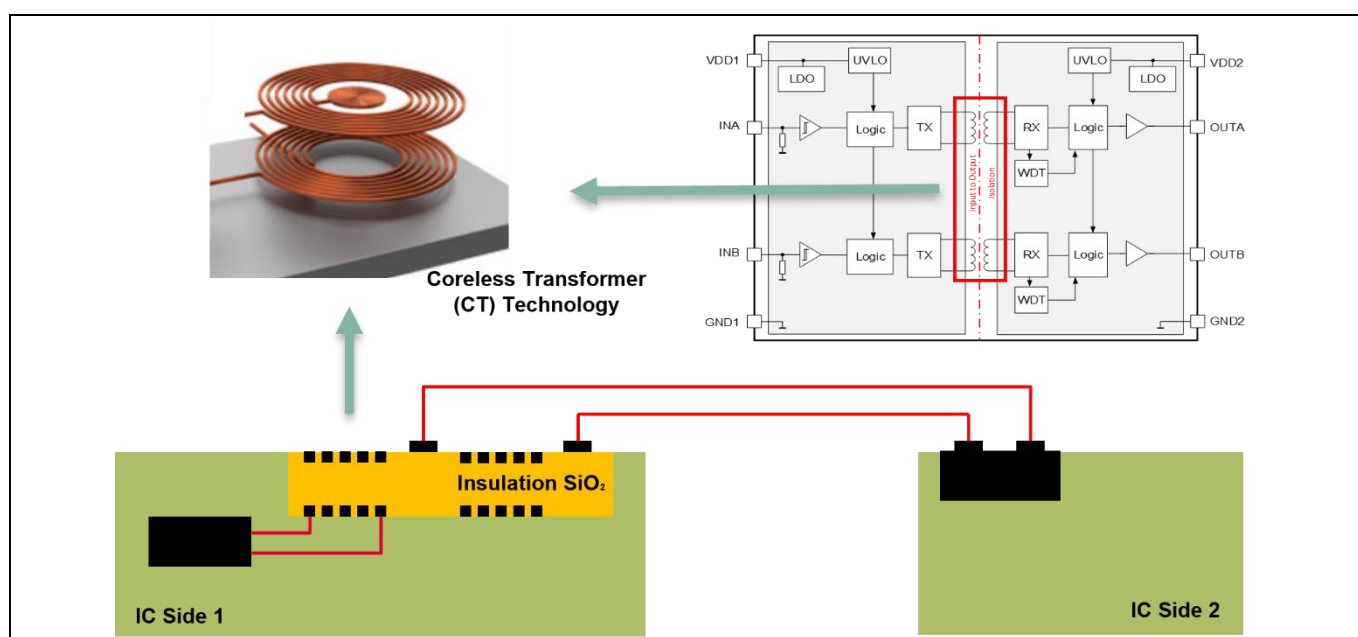

Figure 1 Cross-section of Infineon's CT, used in the ISOFACE™ digital isolator 2DIBx4xxF products
This first digital isolator family uses Infineon's patented coreless transformer (CT) technology to isolate the signals crossing different voltage domains. It is a magnetically coupled isolated technology, which uses semiconductor manufacturing processes to integrate an on-chip transformer consisting of metal spirals separated by a silicon dioxide (SiO_2) insulation barrier, as shown in Figure 1. The on-chip coreless transformers are used to transmit signals between the input and output chips. In addition, functions such as glitch filter, communication modulation, watchdog and undervoltage lockout (UVLO) are integrated to ensure robust and fail-safe data transmission even in critical industrial environments where high voltages and noises are present.